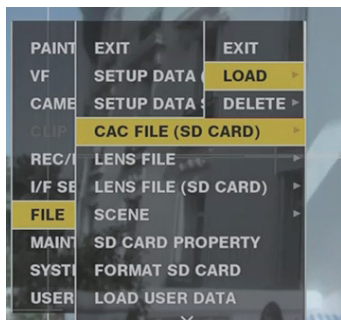

Fig. 1
- 2 Select [LOAD] from the main menu → [FILE] → [CAC FILE (SD CARD)]. (Fig. 1)